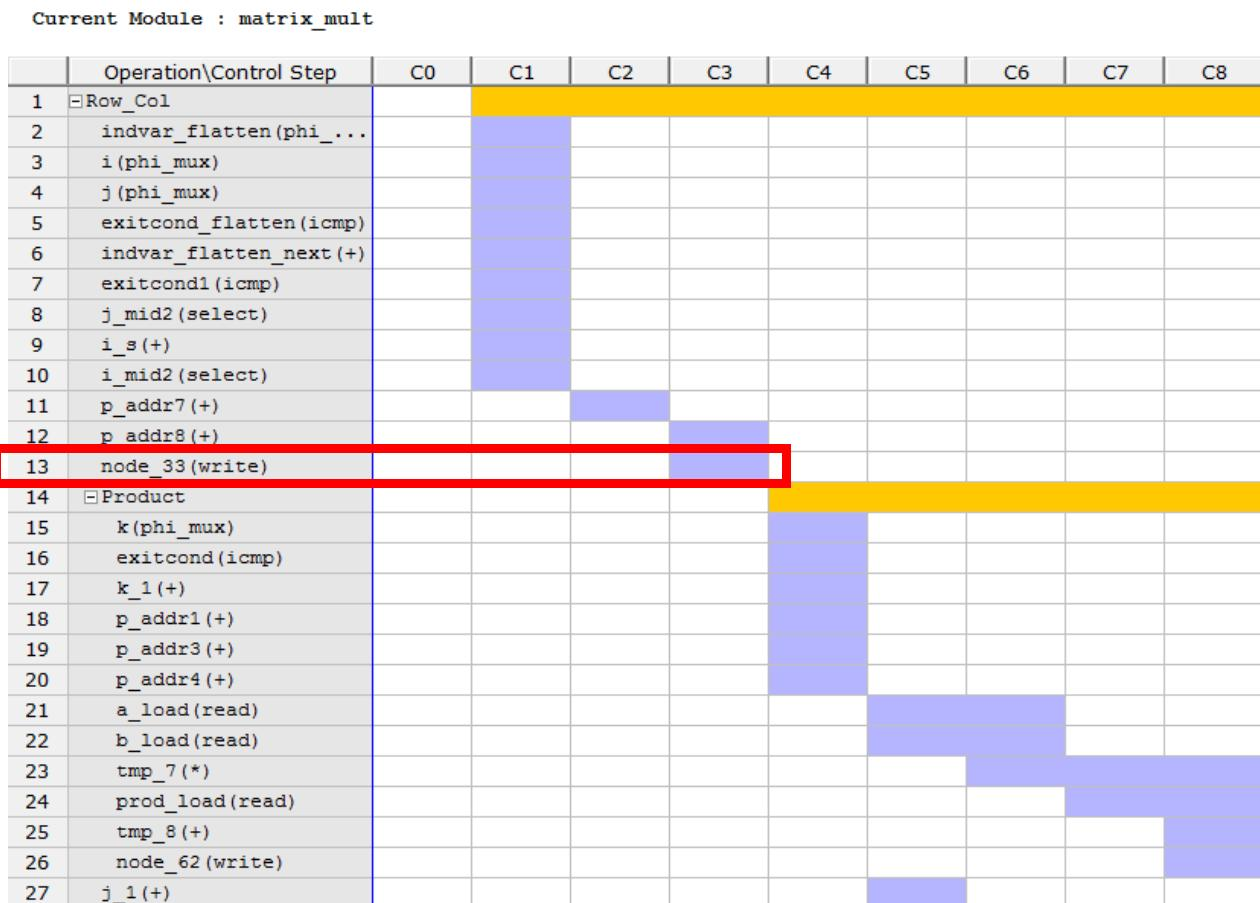

Figure 3.11: Performance view for solution2
- (j) Expand the loops *Row_Col* and *Product* by clicking on them to obtain the view shown in Figure 3.11.